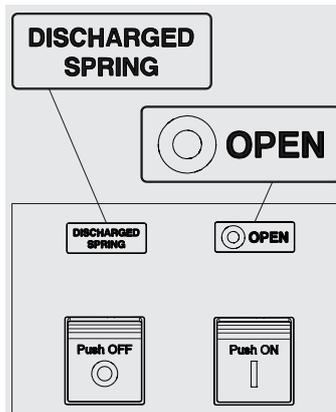

Figure 45
1. Circuit-breaker open with springs discharged (see Figure 45).